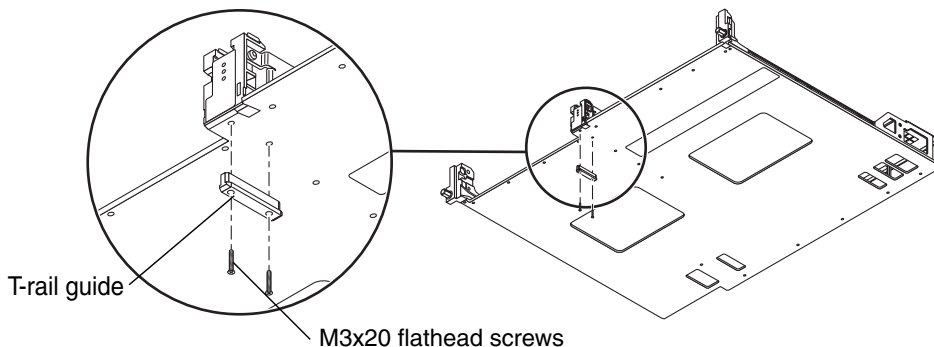

FIGURE 10-3 Removing the T-Rail Guide
3. Remove the two (2) M3x20 flathead screws securing the T-rail guide of the new carrier plate to the center guide bracket of the new carrier plate and discard (FIGURE 10-3).